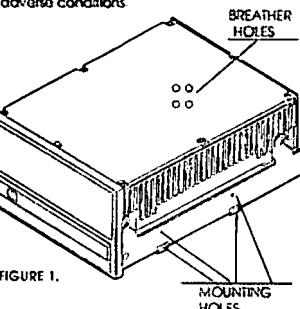

FIGURE 1.
- o Labels must not be put over the breather holes on the top of the drive. (See Figure 1).
The WREN 3 may be mounted with a horizontal orientation (PCB down) or with either of two vertical orientations (on side orientation). Four(4) tapped holes are provided in the bottom of the chassis and two on each side. (See Figure 1) The drive may be mounted using four bottom screws or four side screws (two in each side). Four bottom screws are preferred and recommended. Screws must be of sufficient length to engage the threaded holes, but must not penetrate more than 0.12 in. (3.17 mm) into the chassis. A sway space of 0.050 in. is required on top and bottom.